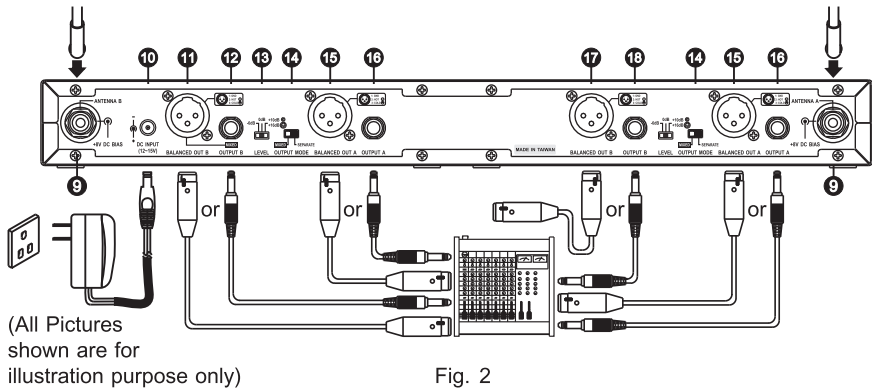
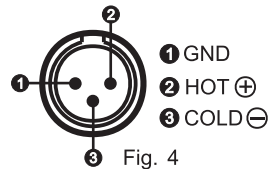

Fig. 2
Fig. 4
1. Antenna Connection: Connect an antenna to each of the antenna connectors ❹ on the rear panel. Fig. 2. Antenna connectors provide an 8-volt DC bias to work with MIPRO antenna boosters. If the antenna cable is longer than 10 meters, it is advisable to install an antenna booster to ensure optimal reception.
2. Power Connection: Connect the power supply to the receiver DC input ❿ and plug it into an AC power source. Fig. 2.
- (A) When connecting the audio output to the MIC IN jack of the mixer or amplifier, switch output level switch ⓫ to 0 dB. When connecting to LINE IN jack, set output level switch to +16 dB when using balanced XLR connector or set output level switch to +10 dB when using unbalanced (6.3 Ø) connector. When connecting to an amplifier with non-standard gain, set output level switch to -6 dB when there is distortion at the maximum output level.
- (B) Output for electric guitar/bass: Use a 6.3 Ø phone cable. One end to receiver's unbalanced output jack and the other end to guitar/bass amplifier's input jack. Switch the output level to the "+10 dB" position.
- (C) Use an XLR cable to connect the receiver audio output jacks ①⑤⑦ to a mixer or an amplifier's MIC IN jack.
- (D) Use a PHONE cable to connect the unbalanced phone jacks ⑫⑬⑭ to a mixer or an amplifier's LINE IN jack.
- (E) To mix the multiple channel outputs, connect to the mixed output jacks ⑪ or ⑫ and switch the output switch ⑭ to the MIX position.
- (F) See Fig. 4 for a 3-pin XLR connector wiring diagram.